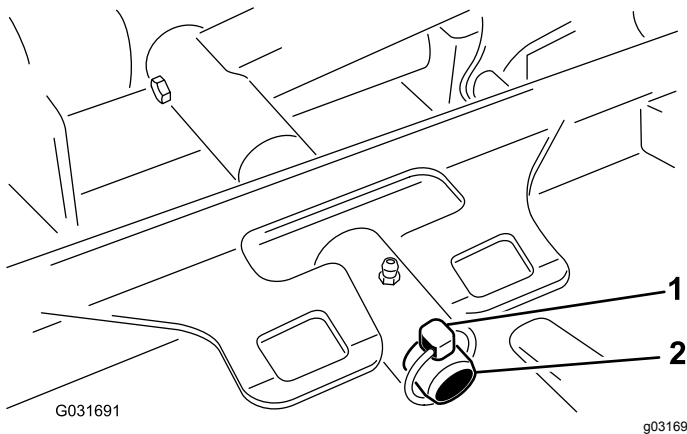

Figure 91
3. Remove the lynch pin securing the deck-carrier frame to the lift-arm pivot pin (Figure 91).
3. Slide the deck-carrier frame onto the lift-arm pivot pin and secure it with the lynch pin (Figure 91).